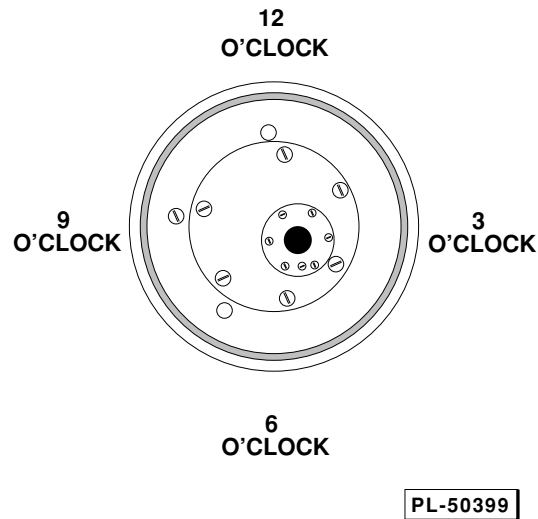

Fig. 20
6. Dip O-Ring in cooking oil for lubrication, and insert it into groove. **IMPORTANT:** First, press O-Ring into place at the 12-, 6-, 3- and 9-o'clock positions (Fig. 20). Using finger pressure only, stretch and work O-Ring into groove until it is seated all the way around. Apply pressure straight down. Do not twist or roll ring into groove; this may fracture the skin of the ring.